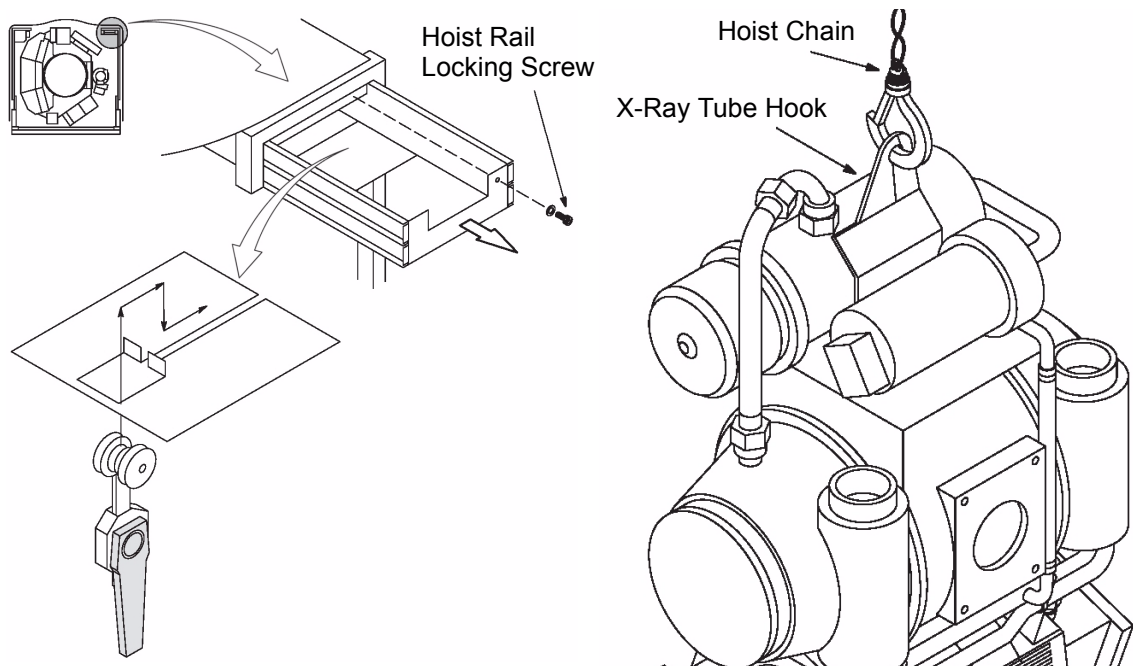

Figure 6 - Hoist Installation
- 7.) Slide out the Hoist Rail, then install the Hoist as shown in Figure 6.